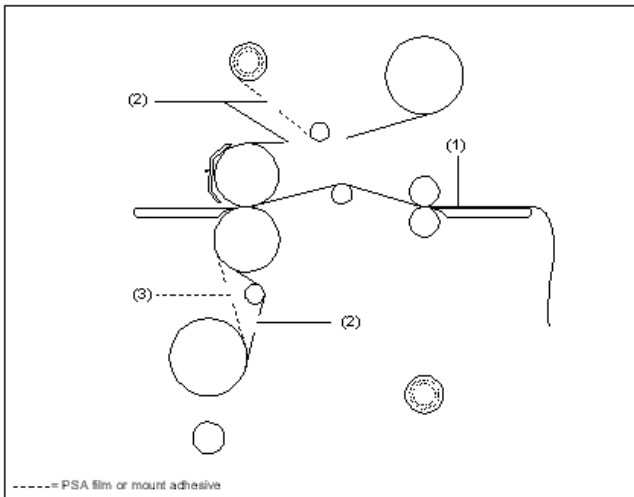

Fig 32
1. Using the rear splitter, cut (1) the output from the web (Figure 32).
2. Cut (2) remaining top film web between the idler bar and heat roller. PSA film, cut the release liner too.
3. Cut (3) the film web between the lower film supply and the idler bar (Figure 32).